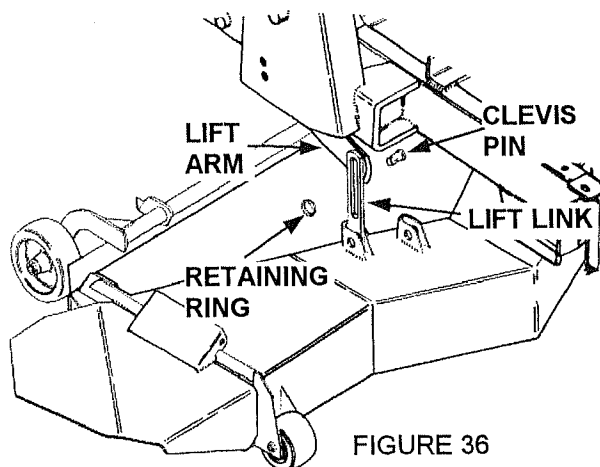

FIGURE 36
4. (See figure 36) Move the loader lift arms down until they align with the slots on the lift links. Secure with 1/2" x 1" clevis pins and retaining rings.